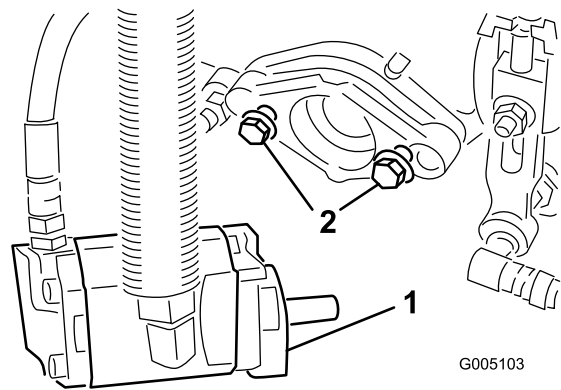

Figure 10
6. Ensure that there is approximately 13 mm (1/2 inch) of threads exposed on each reel drive motor mounting bolt (Figure 10).
8. **Tighten the mounting bolts** (Figure 10).